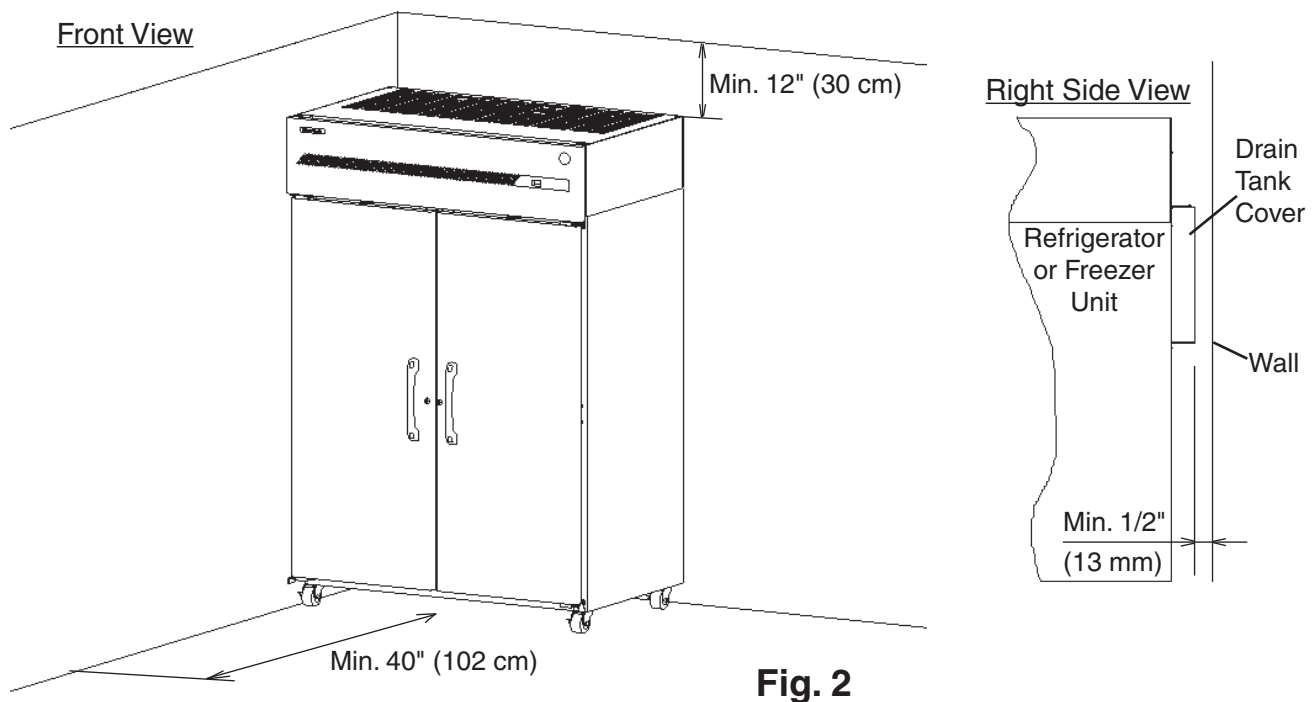

Fig. 2
- Allow at least 40" (102 cm) clearance at the front of the unit for proper air circulation and smooth door operation. Also allow at least 12" (30 cm) clearance from the ceiling to the top of the unit for air circulation. See Fig. 2.
- Allow at least 1/2" (13 mm) clearance at the rear of the unit to protect the drain tank from the impact of door opening/closing and the wall from the drain tank heat. See Fig. 2.